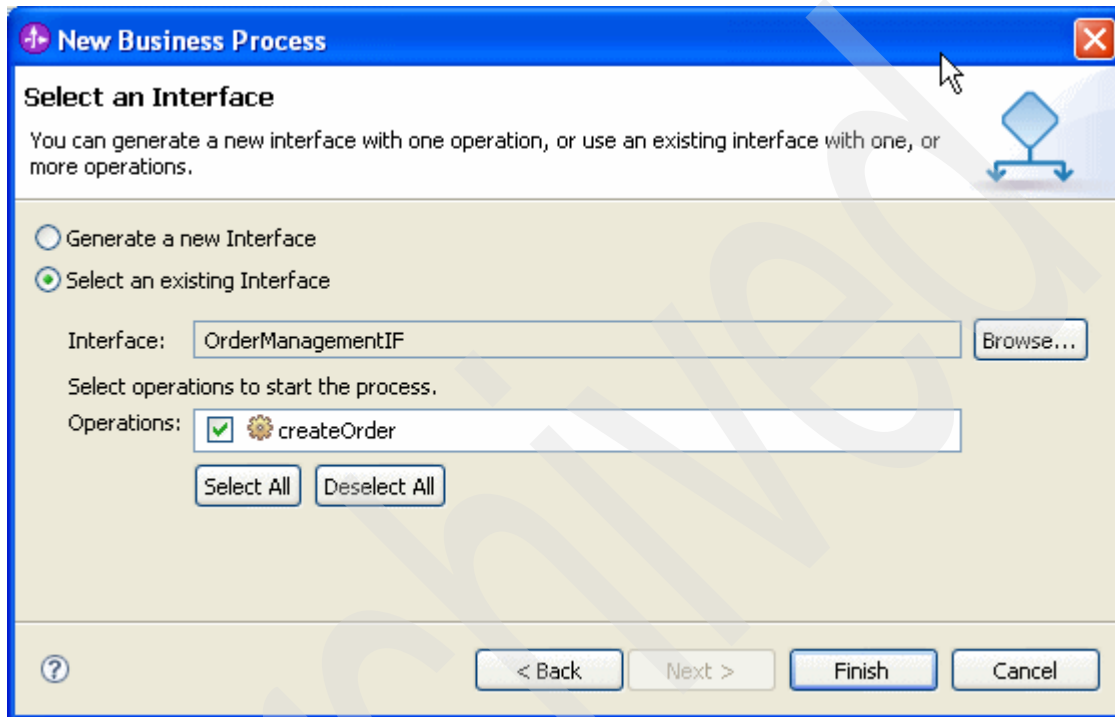

Figure 3-11 Selecting the interface operation the business process implements
4. In the next panel (shown in Figure 3-11):